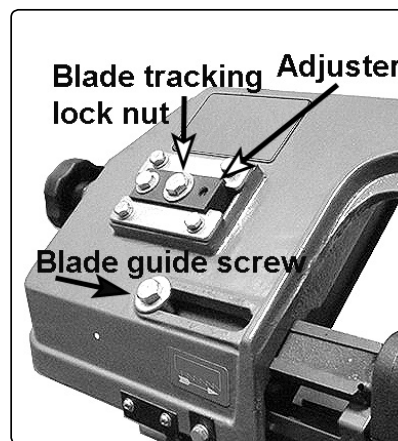

fig.22
7.2.4. Remove the lower blade guard (69) and loosen the lowest screw on the upper blade guide and slide the guide away from the blade to the end of its slotted mounting hole, see fig.17 and fig.22.
7.3.4. If inspection indicates that adjustment is required reduce blade tension (see para. 7.2.3.) and loosen the blade tracking lock nut as seen in fig.22.